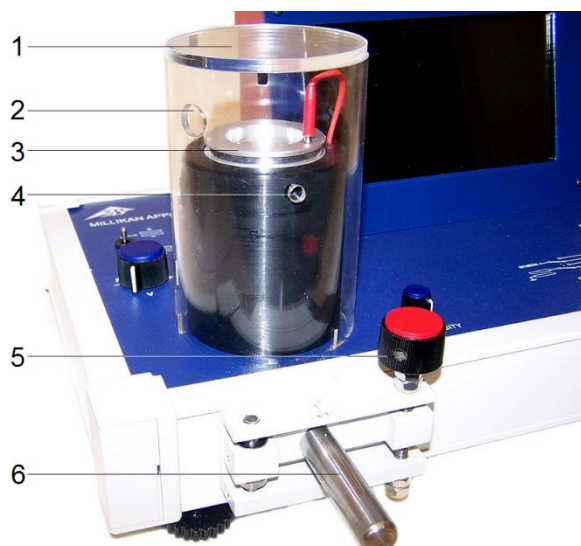

Fig. 2 Experiment chamber:
- Turn the vertical adjustment knob clockwise as far as it will go (see Fig. 2).